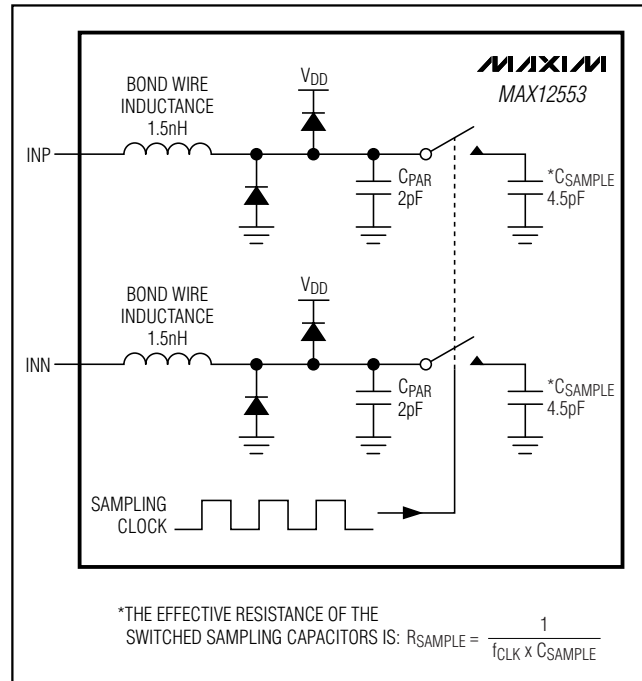
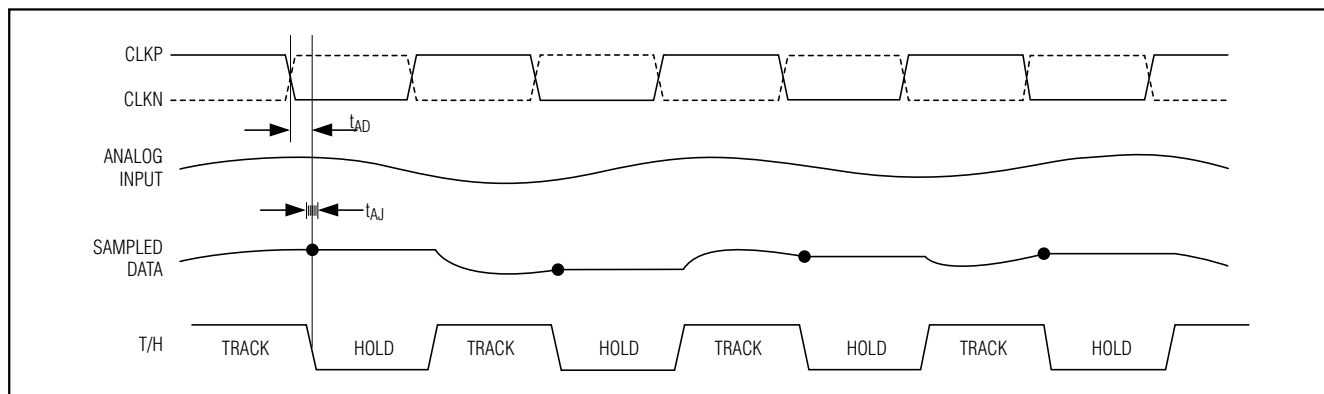

Figure 3. Simplified Input T/H Circuit
Figure 4. T/H Aperture Timing
Figure 3 displays a simplified functional diagram of the input T/H circuit. This input T/H circuit allows for high analog input frequencies of 175MHz and beyond and supports a common-mode input voltage of  $V_{DD}/2 \pm 0.5V$ .
The MAX12553 sampling clock controls the ADC's switched-capacitor T/H architecture (Figure 3) allowing the analog input signal to be stored as charge on the sampling capacitors. These switches are closed (track) when the sampling clock is high and open (hold) when the sampling clock is low (Figure 4). The analog input signal source must be capable of providing the dynamic current necessary to charge and discharge the sampling capacitors. To avoid signal degradation, these
- INP, INN analog inputs are disconnected from the internal input amplifier (Figure 3).